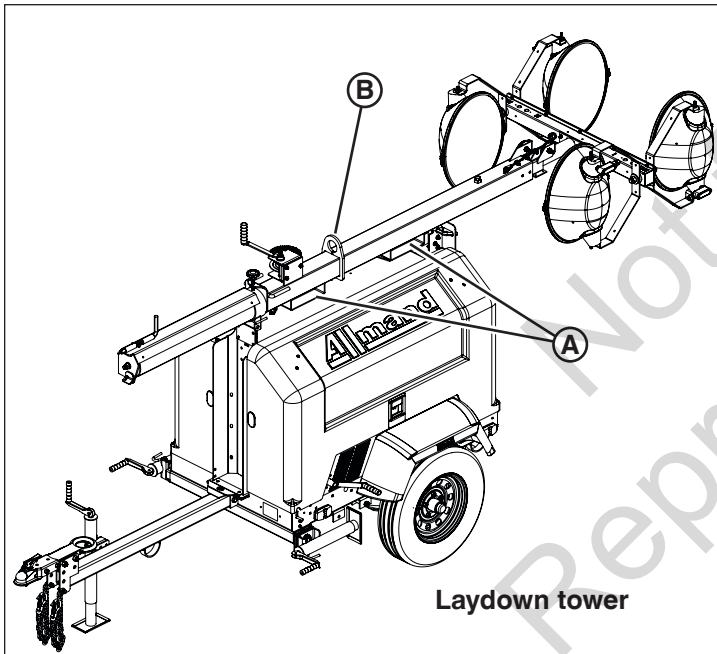

Figure 8a
The NIGHT-LITE PRO II light tower is equipped with top fork-lift pockets (A, Figure 8a and 8b) and a lifting eye (B) for lifting or hoisting.